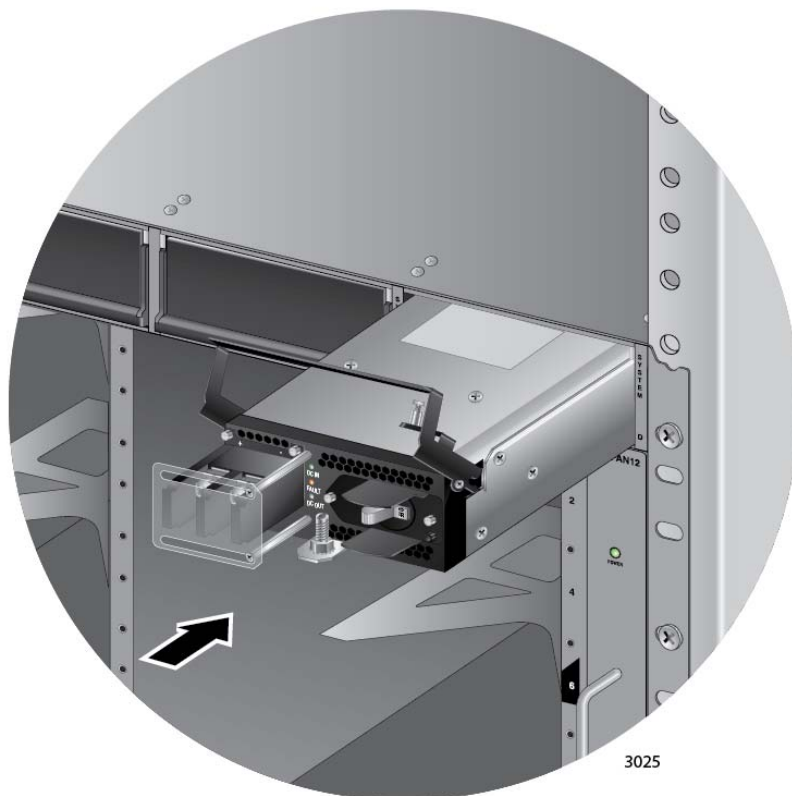

Figure 61. Inserting the AT-SBxPWRSYS1 DC System Power Supply
7. Align and insert the AT-SBxPWRSYS1 Module into slot C or D. Figure 61 shows the power supply installed in slot D.